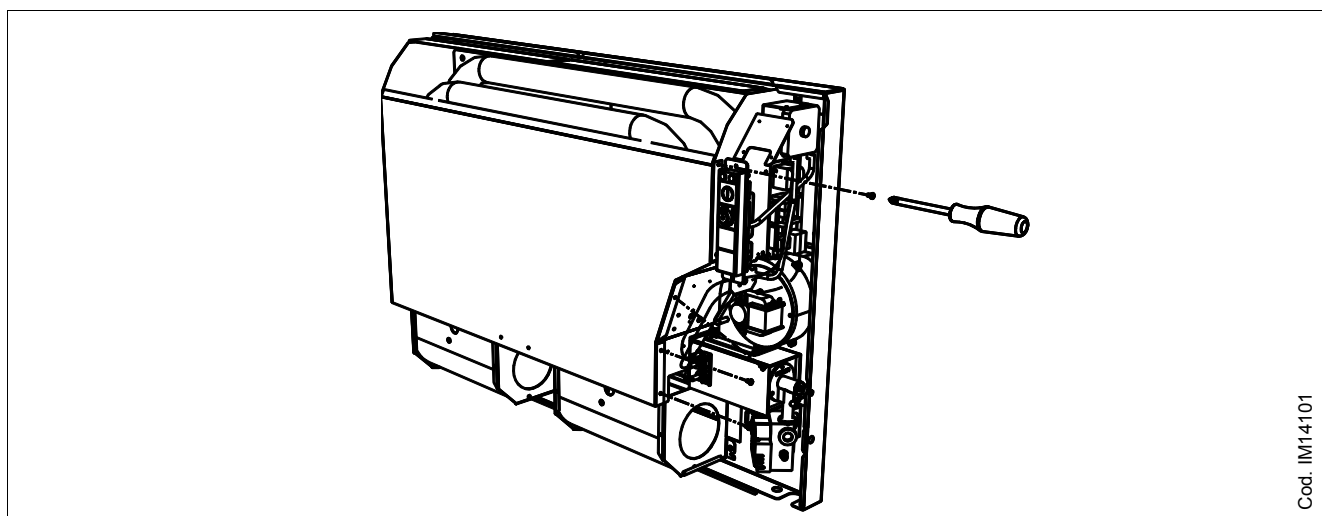

Figure 12 - FRONT SCREEN REMOVAL MODELL 8001 AND 8002
8. For models, 8001 and 8002, remove the front screen unloosing the lateral fixing screws (see Figure 12).
19. Reposition the front screen on 8001 and 8002 models (see Figure 12).